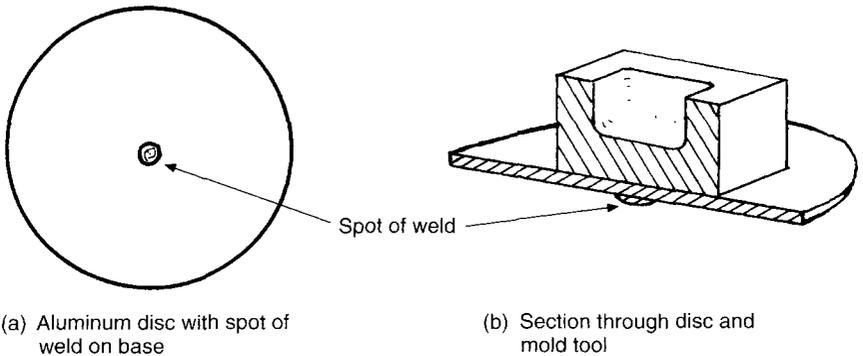

Fig. 6.36
- A 6" (152 mm) diameter, ¼" (6 mm) thick 'aluminum disc' with a spot of weld in the center on the under side to act as a rotary table. This disc is very useful for tea cup and mug sized tools that need to be turned often to complete a weld repair minimizing arc marks to the base of the tool; see Fig. 6.36.